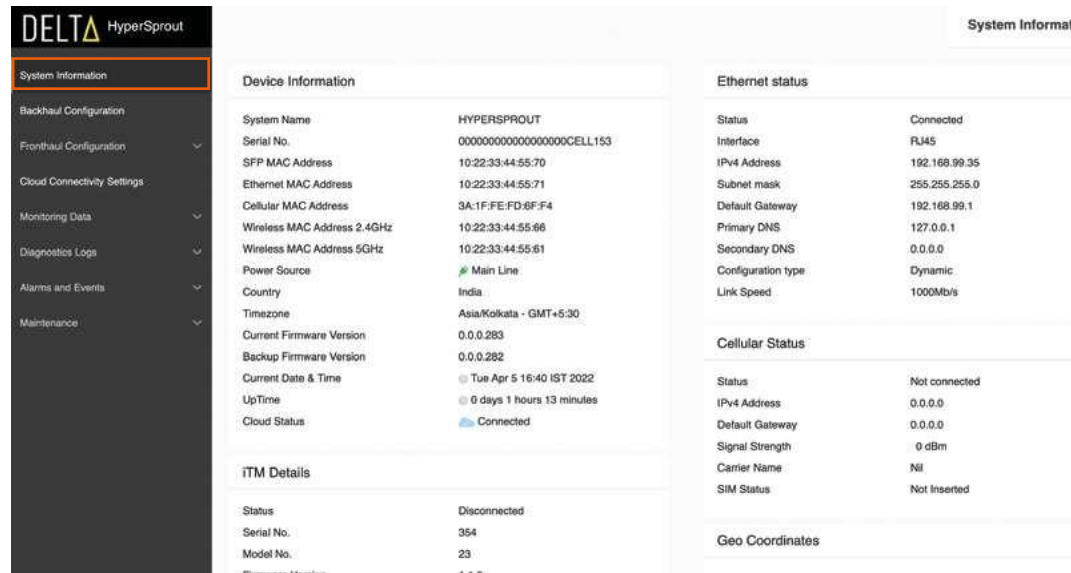

Figure 38: System Information - 1
- e. The **System Information** page will show the device **IPv4 Address**, **System Name**, **Ethernet MAC Address**, **Wireless MAC Address**, **Cloud Status**, **Current Firmware Version** number, device **UpTime**, and both the **Ethernet** and **Cellular** status. See **Figure 38**.